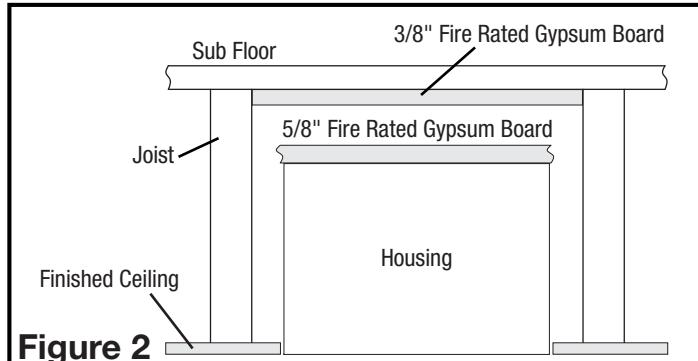

Figure 2
- As per UL and CUL fire resistance construction, install a minimum 3/8" Fire Rated gypsum board 18" long so that it is centered above the fan. The gypsum board must span the distance between the joists, typically 14.5" for joists on 16" centers (**Figure 2**).